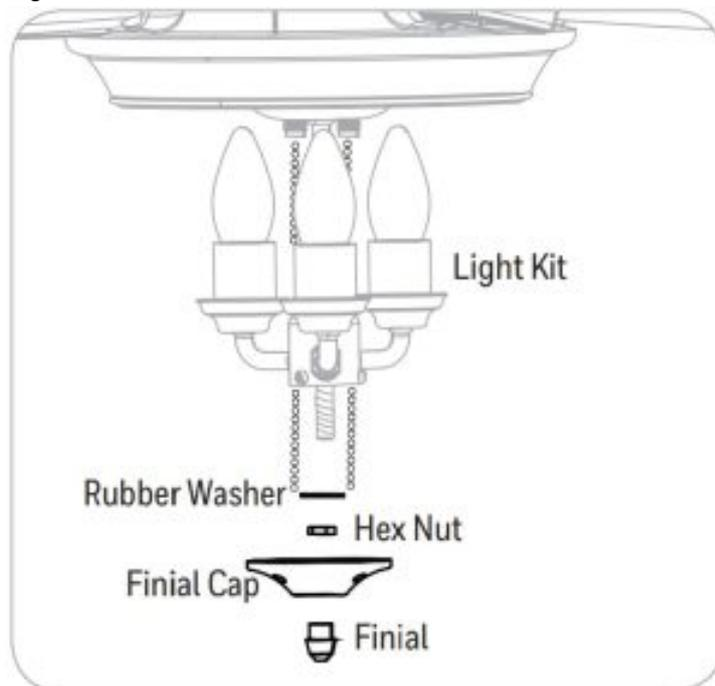

Figure 5.11
11. Attach the pull chain extensions to the pull chains. Note: When facing the reverse switch, the light pull chain is on the left and the fan pull chain is on the right (Figure 5.11).